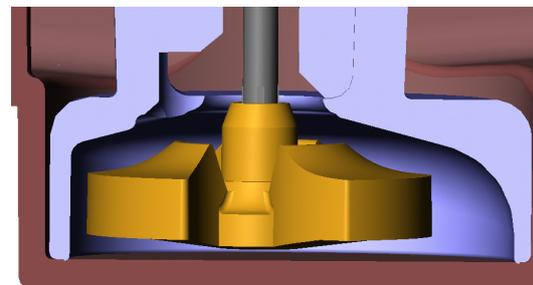

Fig. 5 Pump housing
- The pump rotor rotates in the pump chamber, which is filled with water. This is formed by the bottom of the float tank and the underneath of the pump housing (fig.5).